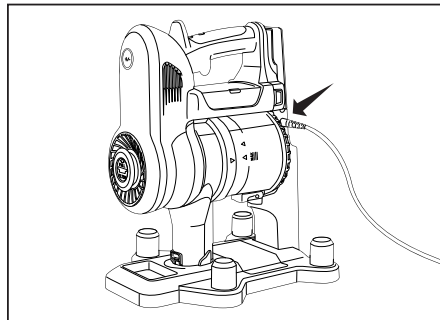
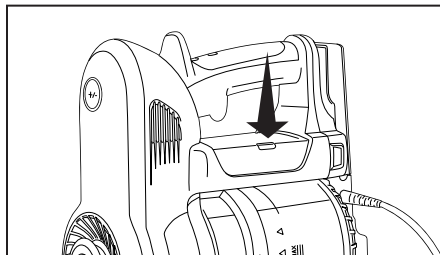

Fig. 3
Fig. 4
2. Plug the battery charger into the Storage/Charging Station and into an electrical outlet (Fig. 3). The indicator light on the battery will be red while the battery is charging. When the indicator light is blue, the battery is fully charged (Fig. 4). Charging time is approximately 4-5 hours.